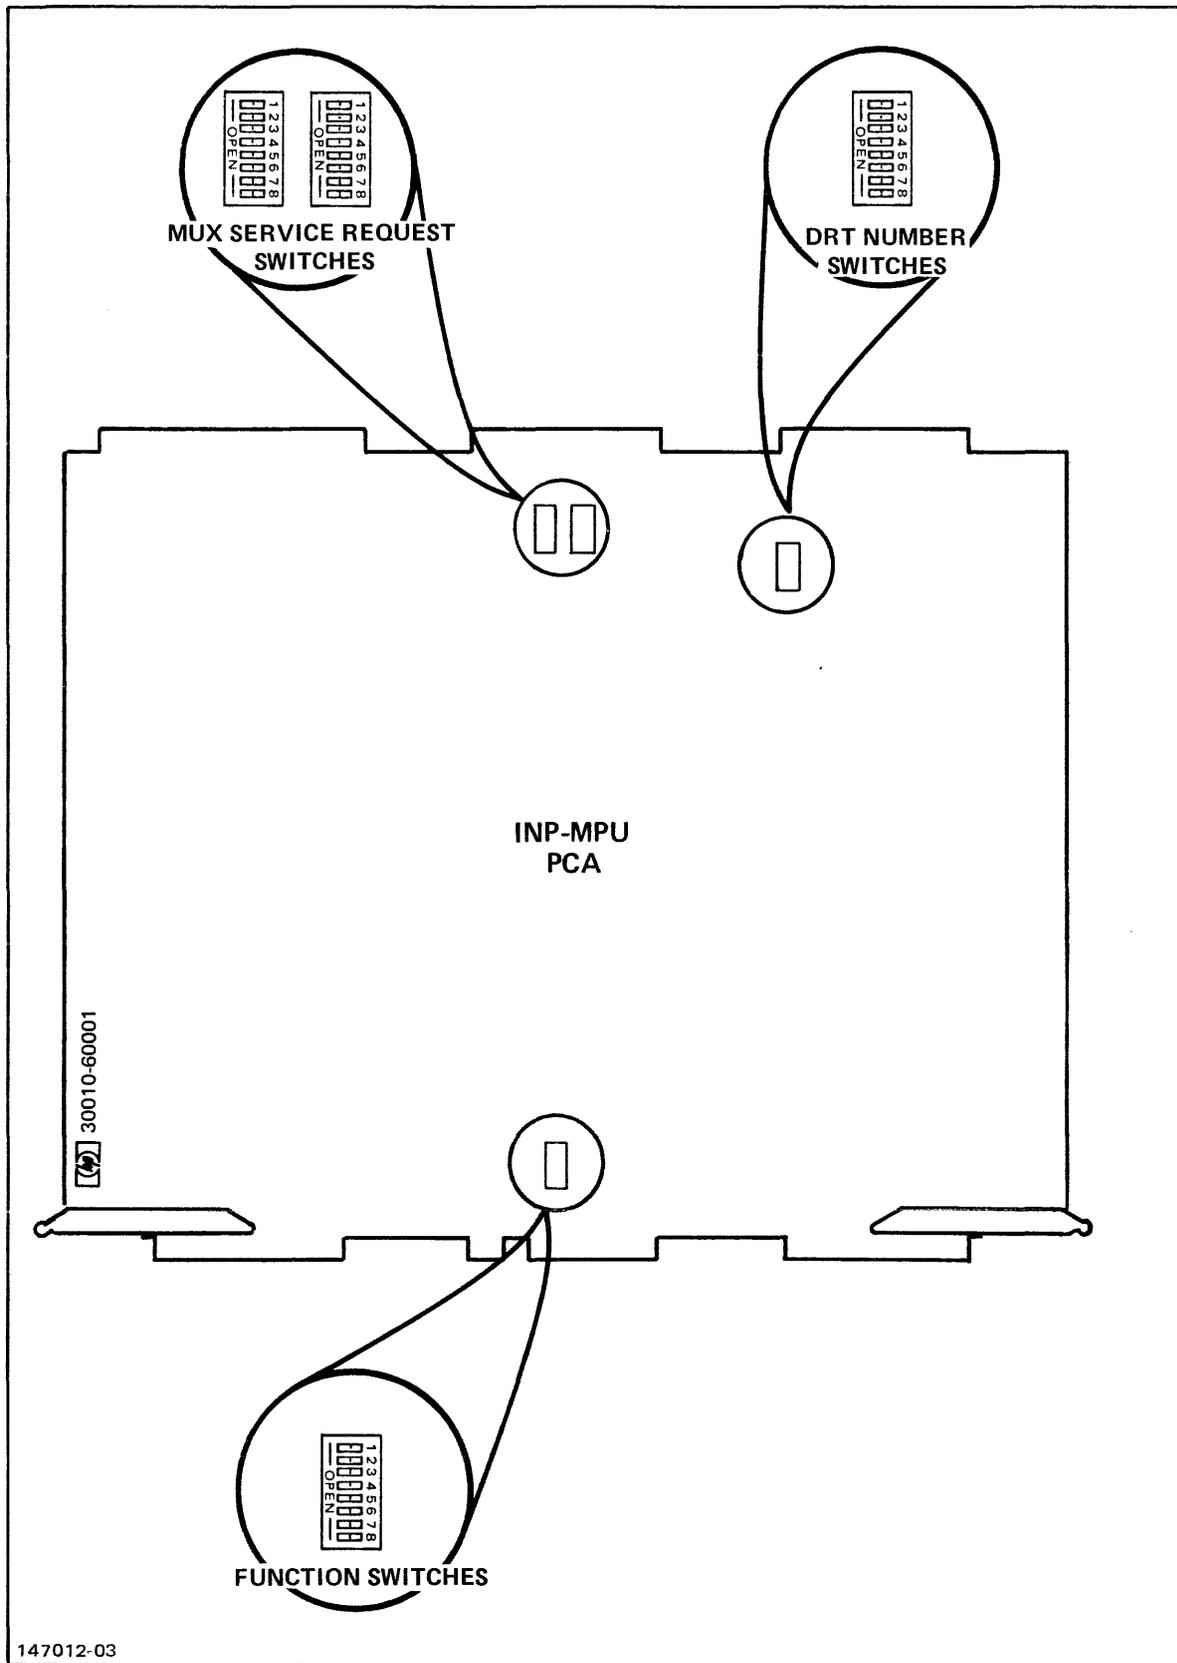

Figure 2-1. Location of PCA Switches
The jumpers used on the INP PCA boards have all been preset during board calibration at the factory, and no field alterations are required. There are, however, four blocks of miniature rocker switches (called "rocker switch packs") on the INP-MPU board that must be manually set to configure the INP for your specific system and application. Figure 2-1 shows the location of these switches.
- a. The MUX service request switches are the two rocker switch packs located on the INP-MPU board (part no. 30010-60001) in columns 12 and 13, at row 7, as shown in figure 2-1. Each rocker switch pack consists of eight miniature two-position switches in a block. Both sets of switches are labeled with numbers 1 through 8, and the OPEN position is also labeled on the switch block. To set the MUX service request, close only one of the 16 rocker switches while leaving the others in the OPEN position. Service requests SR0 through SR7 are set into the switch block on the right (column 13, row 7) and SR8 through SR15 are set into the switch block on the left (column 12, row 7) as listed in table 2-1.
- b. The DRT number switches are eight miniature two-position rocker switches in a single block (identical in appearance to the switch blocks used for setting the MUX service requests in step a). The DRT number switch block is located in column 18, row 6, of the INP-MPU board (as shown in figure 2-1). Set the DRT number into switches 2 through 8 in octal notation (open = true), using switch number 2 to represent the most significant bit and switch number 8 to represent the least significant bit. Switch number 1 serves as an odd parity jumper. Set switch number 1 to the appropriate position (open or closed), so that an odd number of switches (including the parity switch) is opened.
- c. The fourth block of miniature rocker switches (identical in appearance to the other three blocks described in steps a and b) is located in column 12, row 1, of the INP-MPU board (as shown in figure 2-1). These switches have been preset at the factory, but it is advisable to visually check their settings against those listed in table 2-3 in the column entitled "Required Position for System Use". (This visual check is to verify that no inadvertent changes occurred during transit.) Switches 1 through 7 should always be left in the positions shown. Switch 8 is normally left in the OPEN position, but it can optionally be closed to cause the self test to repeat in a continuing loop.